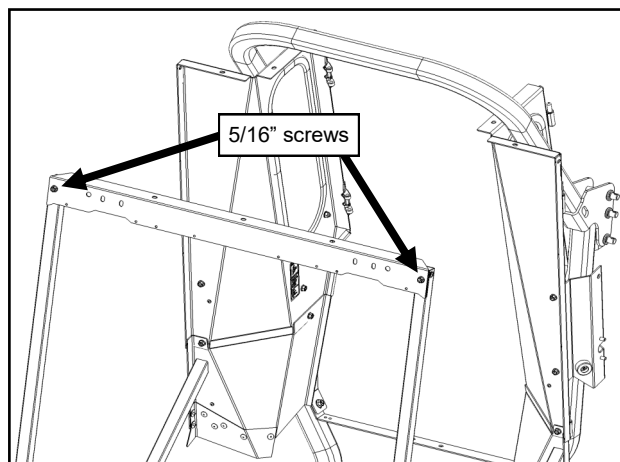

Fig. 10.1 (Install Windshield Support)
10.1 Install the Windshield Support to the A-Pillars. See figure 10.1.